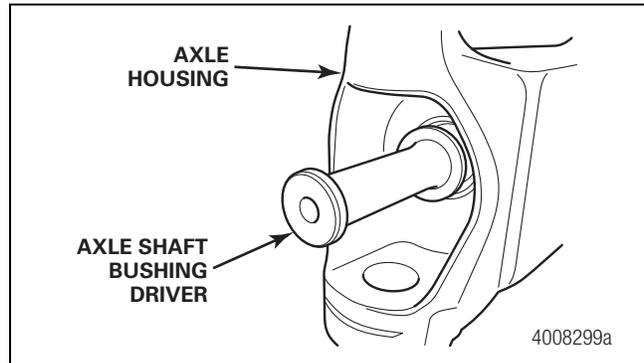

Figure 8.1
1. If removed, use a driver and hammer to install the axle shaft bushing into the housing. Figure 8.1.